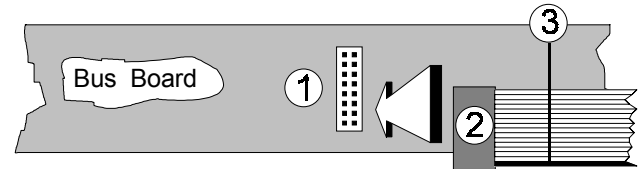

Fig. 3: Connecting the ribbon cable to the bus board.
- ❑ Now join the free end of the ribbon cable (see ② in Fig. 3) to the nearest available position on the system bus board (see ① in Fig. 3).
Check very carefully that it is connected so that the coloured marking on the ribbon cable is at the bottom of the bus connector (see ③ in Fig. 3), and it is **pushed fully home, not at a slight angle**. Failure to check this may result in the module's instant destruction as soon as the power is turned back on!